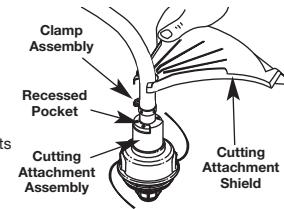

Fig. 2
- Place the cutting attachment shield onto the shaft housing above the cutting attachment assembly (Fig. 2).
- Push the cutting attachment shield down to the top of the cutting attachment assembly and then rotate the cutting attachment shield until the screw holes align and the guard fits into the recessed pocket (Fig. 2).